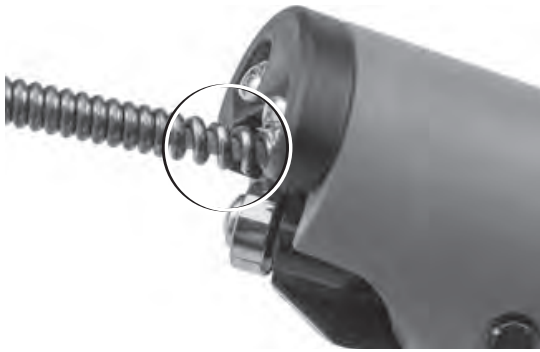

Figure 9 – Openings in Cable Wind at the End of Cable
11. Continue to clean the rest of the drain. Pay attention to how far the cable has gone. Do not overrun the cable into a larger drain. This can cause the cable to knot up or cause other damage. The cable includes an increase in diameter that will not feed through the AUTOFEED mechanism – this can be identified by openings in the cable wind just outside the drain cleaner (see Figure 9).
2. Pull cable out of drain cleaner until increase in cable diameter is visible (Figure 9).